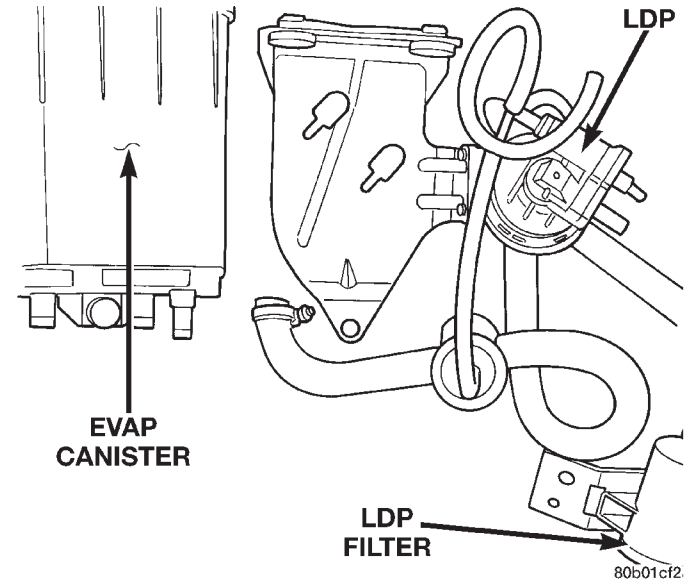

Fig. 24 LDP and EVAP Canister
- (10) Remove hoses from EVAP canister.
(11) Disconnect electrical connector for Leak Detection Pump (LDP).
- (12) Remove push pin from bracket for EVAP canister (Fig. 24). Remove canister.